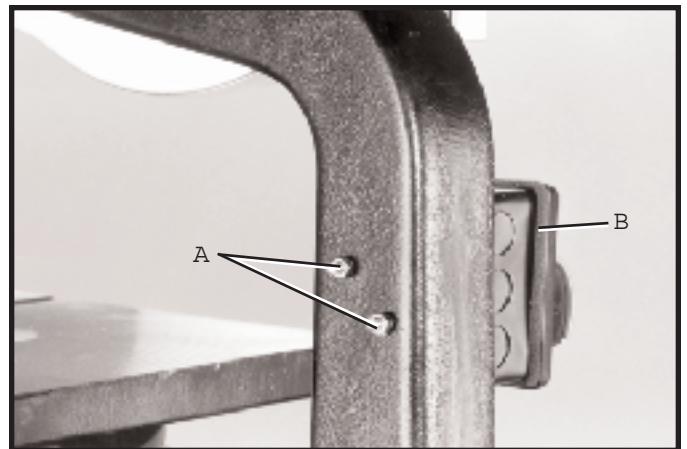

Fig. 20
5 Fasten the switch box (B) to the band saw arm using two hex nuts and lockwashers (A) Fig. 20, which were removed in STEP 3.